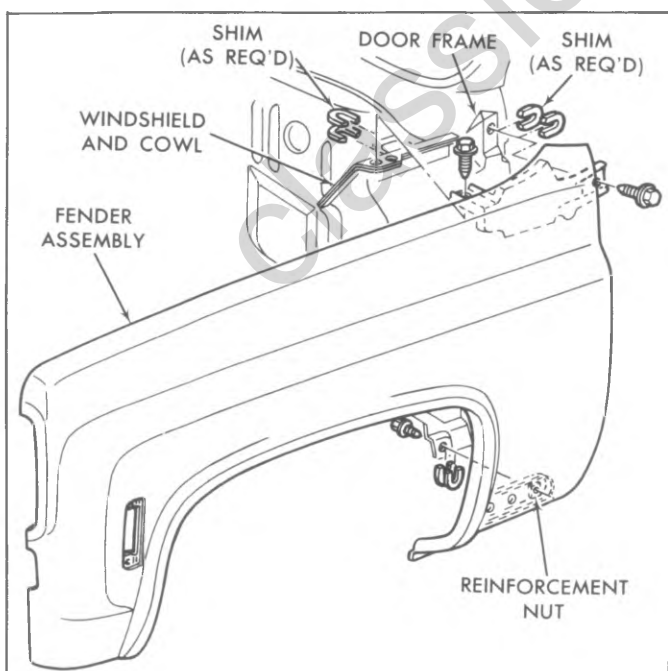

Fig. 2C-19--Front Fender Assembly--CK Model
9. Remove upper and lower radiator grille panels. (Fig. 2C-20).